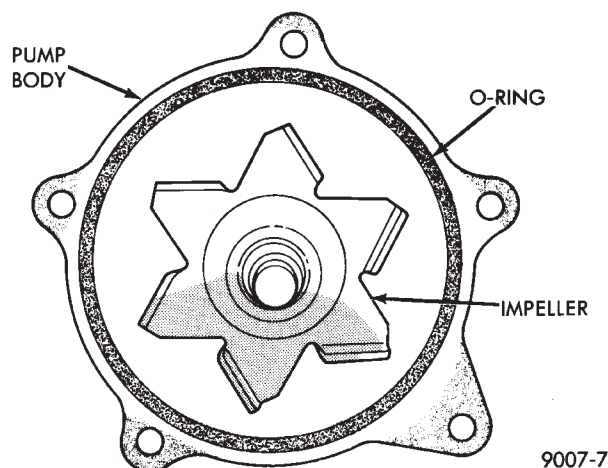

Fig. 2 Water Pump Body
- (1) Install new O-ring in O-ring groove (Fig. 2).
- (2) Install pump to chain case cover. Torque screws to 12 N•m (105 in. lbs.).
- (3) Rotate pump by hand to check for freedom of movement.
- (4) Position pulley on pump. Install screws and torque to 30 N•m (250 in. lbs.).
- (5) Install drive belt. See Accessory Drive Belts this group.
- (6) Install right front lower fender shield.
- (7) Refill Cooling System. See Refilling Cooling System in this section.